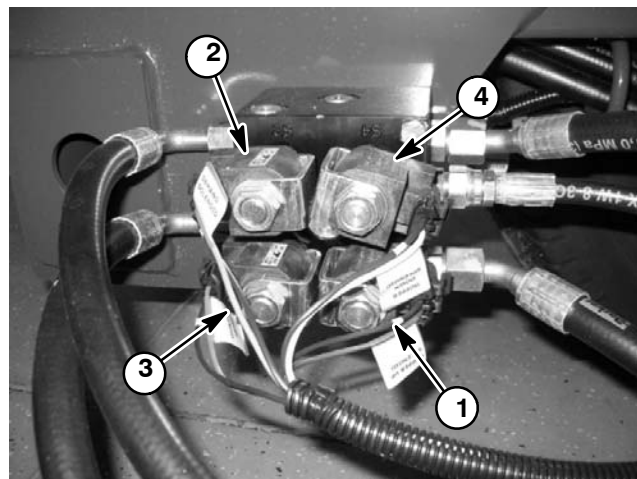

Figure 9
The hydraulic system on the Pro Sweep 5200 uses four (4) solenoid valve coils on the hydraulic control manifold (Fig. 9).